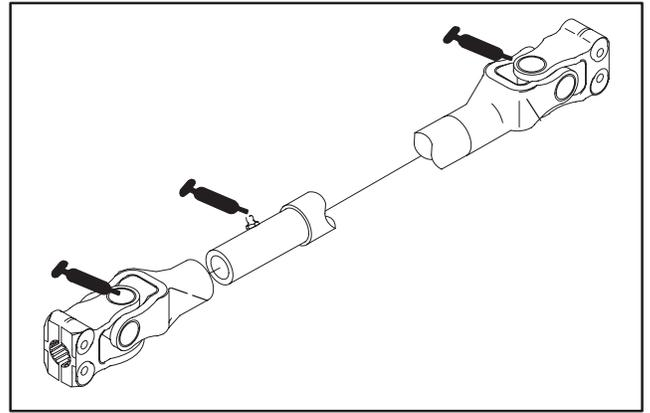

Figure 17
4 Wheel Drive Models only—Steering cylinder ball joints, Rear axle tie rod (2), Rear axle pivot (1), Double Cardan joints (2 ea. side) (Fig. 16) and Rear Drive Shaft (3) (Fig.17)